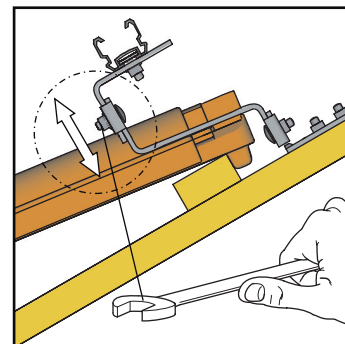
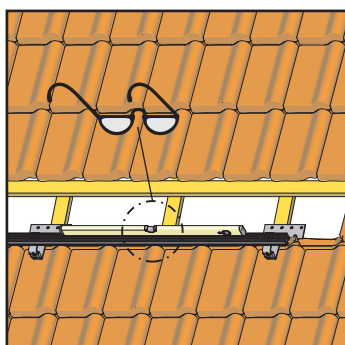

Fig. 3-10 Height adjustment of the mounting bracket
Fig. 3-11 After connection, align the profiles horizontally or with a slight gradient
12. Adjust the height of the mounting profile rail (Fig 3-10 to Fig 3-11).